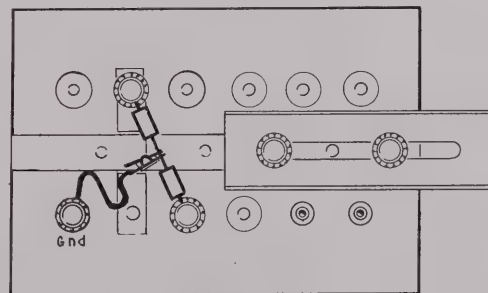

Fig. 3 Balanced Impedances (Grounded)
- (c) Balanced impedances with centre point to ground. Ground terminal to centre-point of Unknown; Neutral left free (Fig. 3).